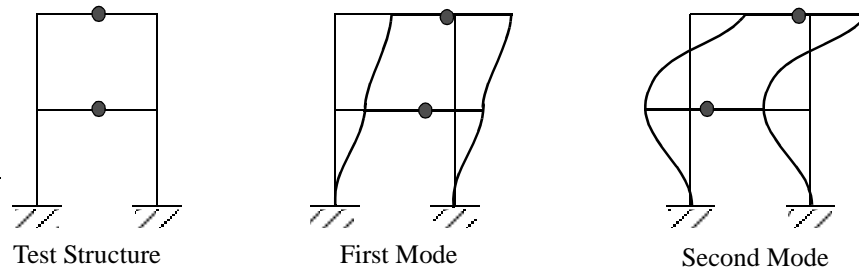

Figure 3. Diagram of mode shapes for the test structure.
- Figure 3: Diagram of Mode Shapes of Test Structure
The mode shapes of the test structure are shown in figure 3. The first mode has zero nodes and the second mode has one node.